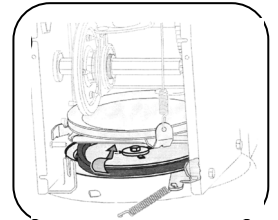

Figure 23
4. Slip the drive belt off the pulley and between friction wheel and friction wheel disc. See Figure 23.